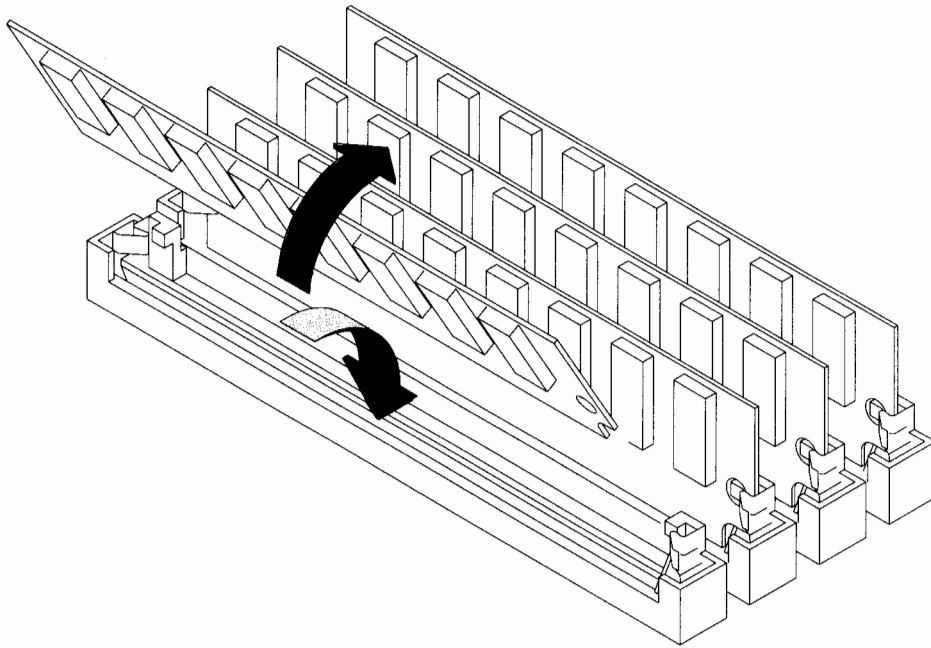

Figure B-9. Installing Memory Boards
3. Install the new memory board with its top edge tilted toward the front of the system unit. Note that the memory board is notched on one end to fit the keyed connector. Press firmly on the memory board to ensure that it is fully seated. Snap the board into place by moving it to a vertical position. Its ends snap into the connectors spring clips. Figure B-9 shows how to install the memory board.